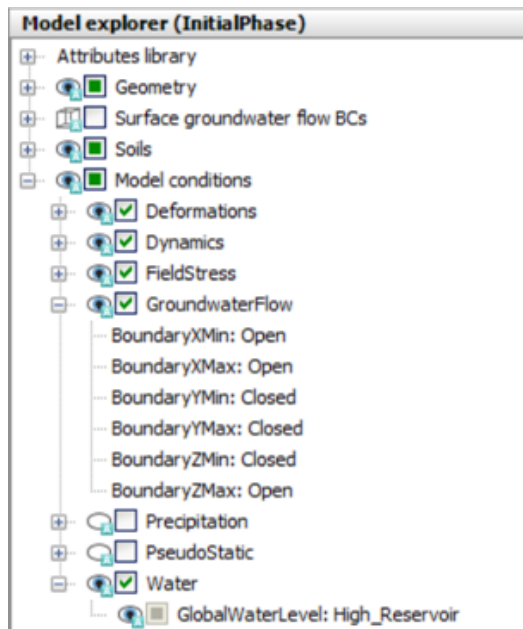

Figure 7–5: Boundary conditions for groundwater flow
- 10 In the **GroundwaterFlow** subtree set **BoundaryYMin**, **BoundaryYMax** and **BoundaryZMin** to **Closed**. The remaining boundaries should be **Open** (See Figure 7–5 \(p. 139\)).